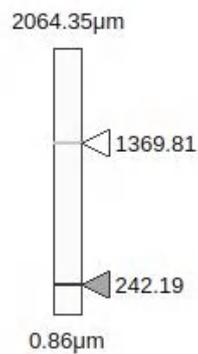

Figure 3- 12
- **Z-axis ruler:** Display the range of the Z-axis under the current magnification, as well as the set upper and lower focal plane positions. As shown in Figure 3- 11: